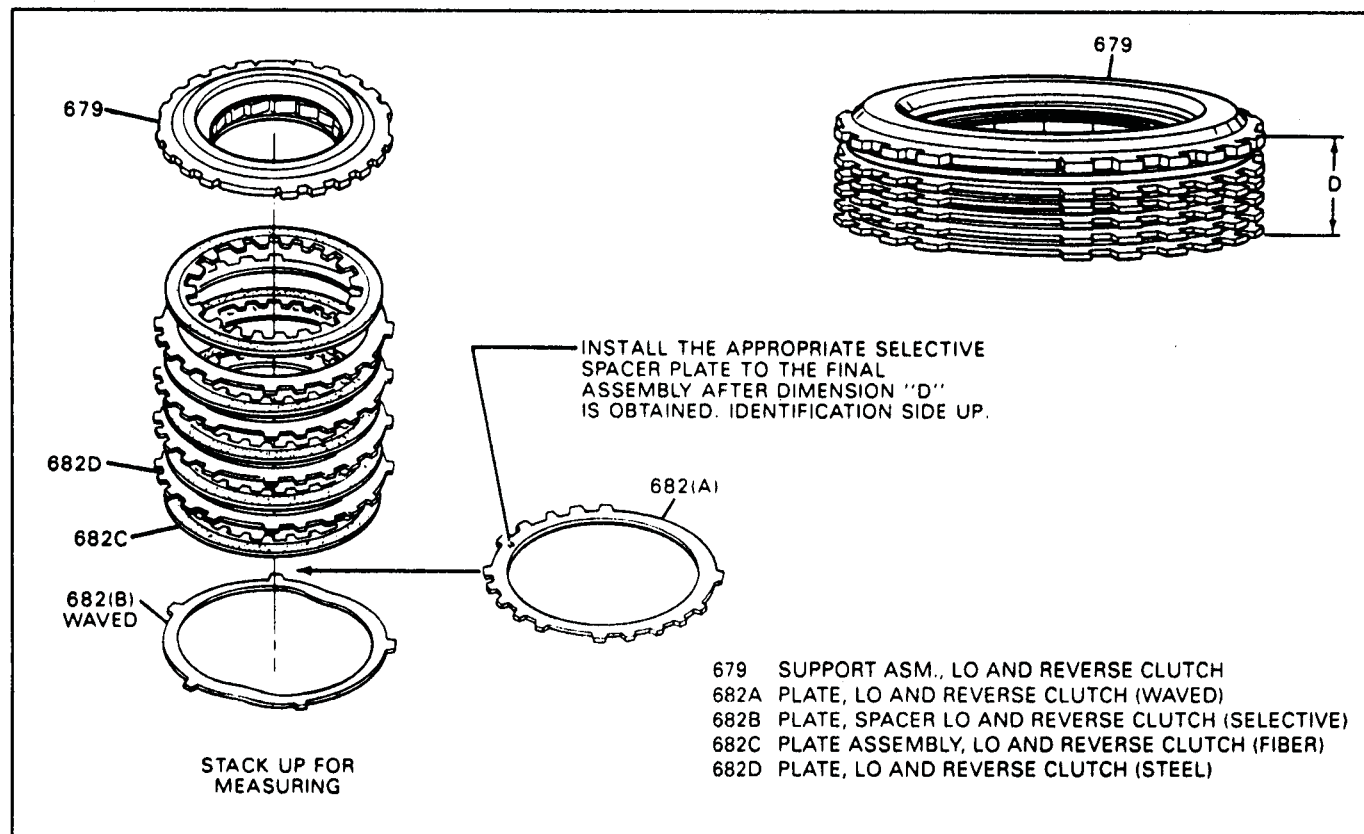

Figure 70
- To measure for the proper selective spacer plate, stack the lo/reverse assembly on a flat work surface, as shown in Figure 70, in the following order:
- Measure the height of the clutch pack from the work surface to the top of the Lo/Reverse clutch support. This will be dimension "D", as shown in Figure 70.